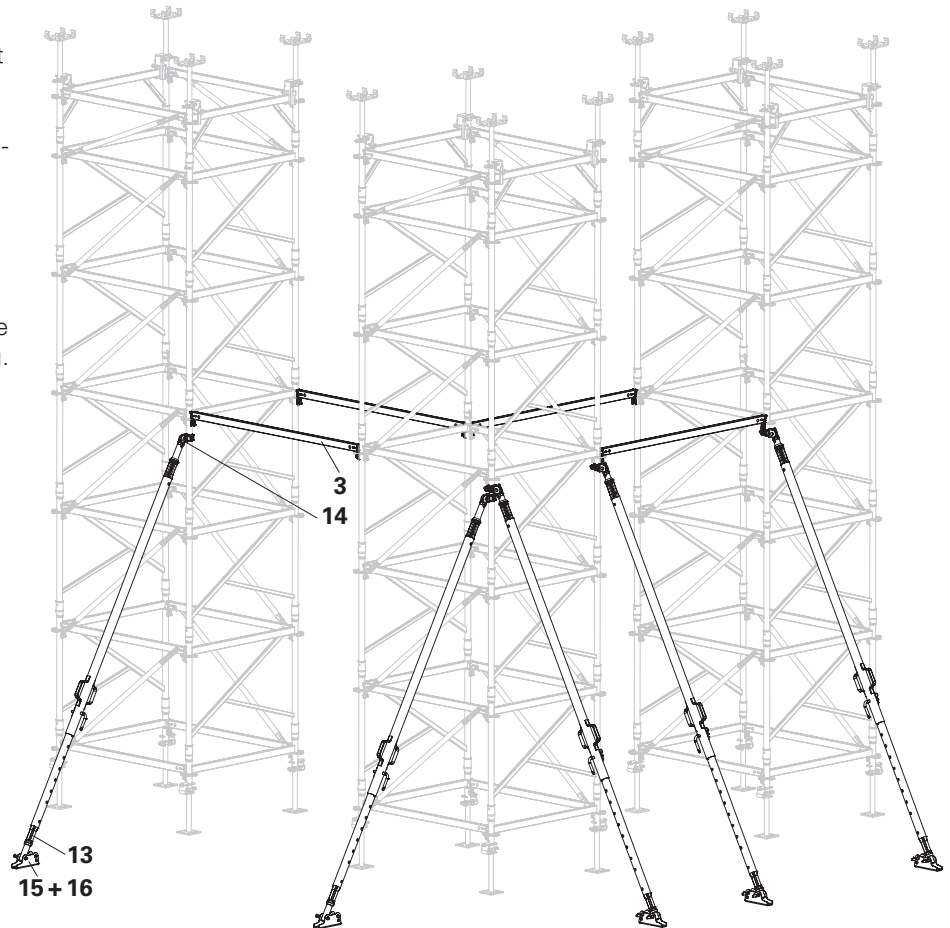

Fig. A5.02
- Connect additional shoring towers using horizontal ledgers (3) and push-pull props.
- (Fig. A5.02)